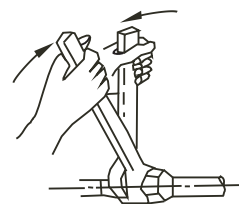

Fig 5.2
- Put the connecting pipes at the proper position, wrench the nuts with hands then fasten it with two wrenches simultaneously. (Refer to Fig 5.2)